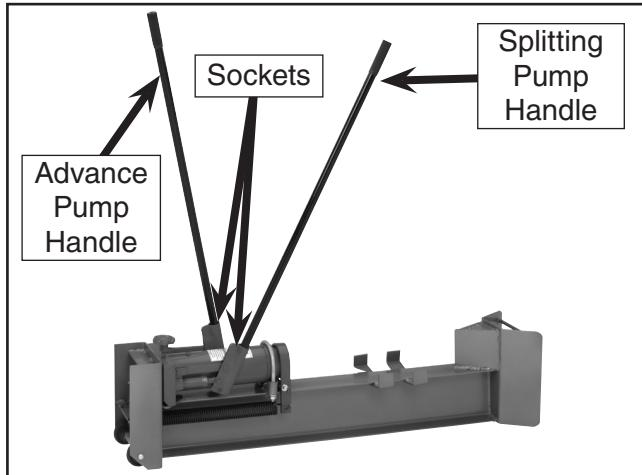

Figure 1. Model H6239 handles installed.
The Model H6239 10 Ton Log Splitter (**Figure 1**) features 10 tons of pressure for splitting firewood, a  $17\frac{5}{8}$ " log capacity, an  $8\frac{1}{4}$ " ram stroke, and two built-in mini wheels for easy mobility.
4. Use the advance pump handle (**Figure 1**) to quickly move the piston rod until it is close to the log. Then use the splitting pump handle (**Figure 1**) to split the log.